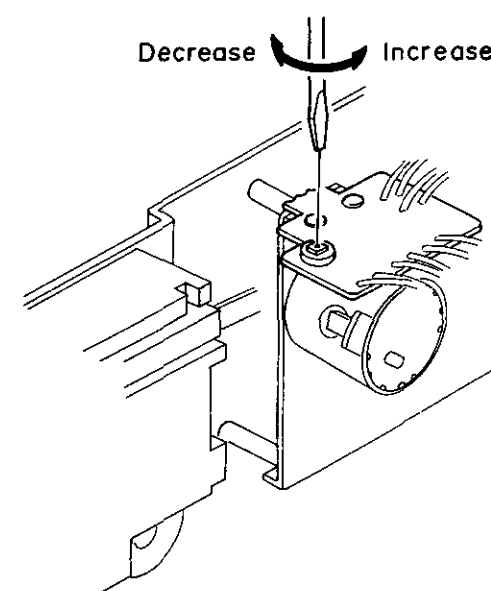

Fig. 4.27
- (1) Remove the Top Cover Ass'y, referring to item 2.1.
- (2) Connect a Frequency Counter to Line Output Jacks.
- (3) Load a 3 kHz Speed Wow/Flutter Tape (DA09006A) and play it back.
- (4) Referring to Fig. 4.27, adjust the Tape Speed Adjustment Volume VR501 on the Speed Cal. P.C.B. Ass'y to obtain 3,000 Hz on the Frequency Counter.